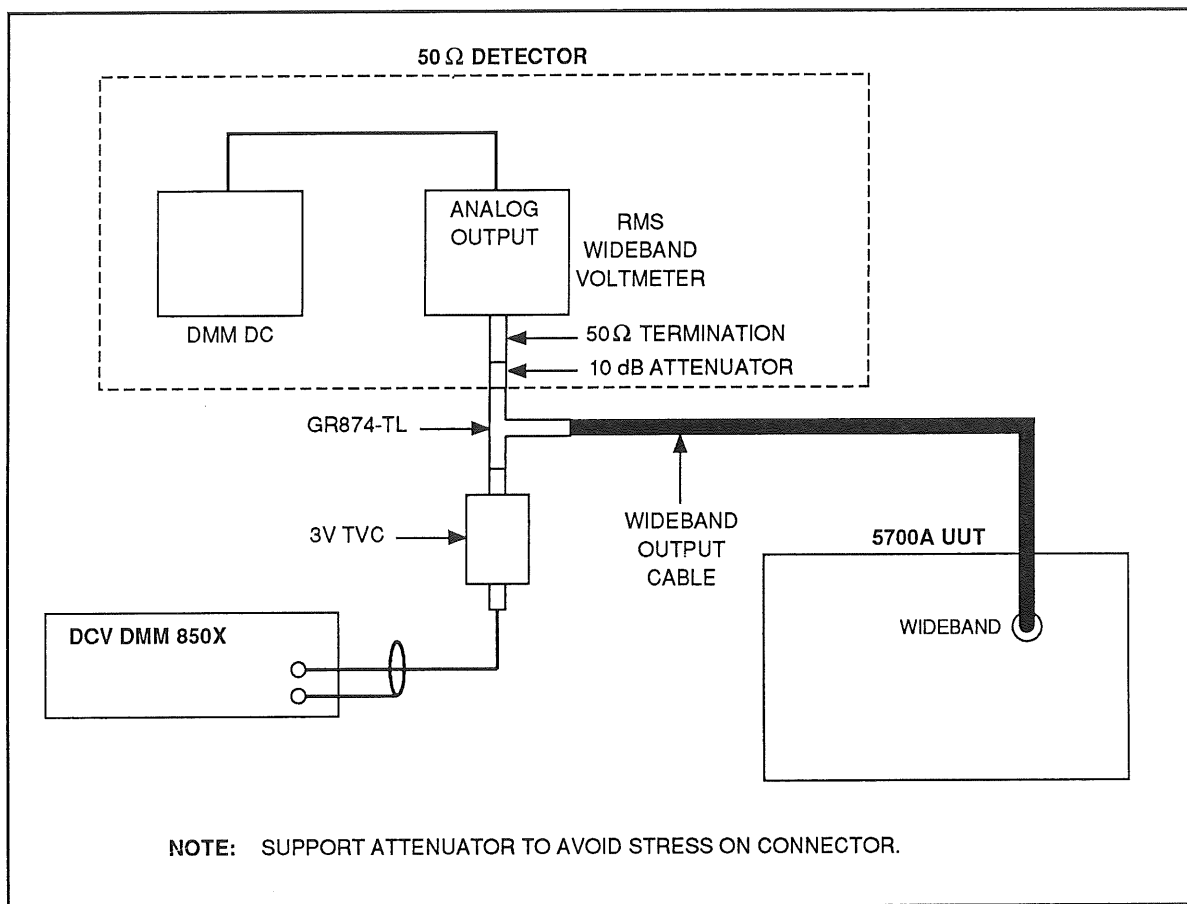

Figure 3-16. 50 Ohm Detector Characterization
1. Connect the equipment as shown in Figure 3-16.